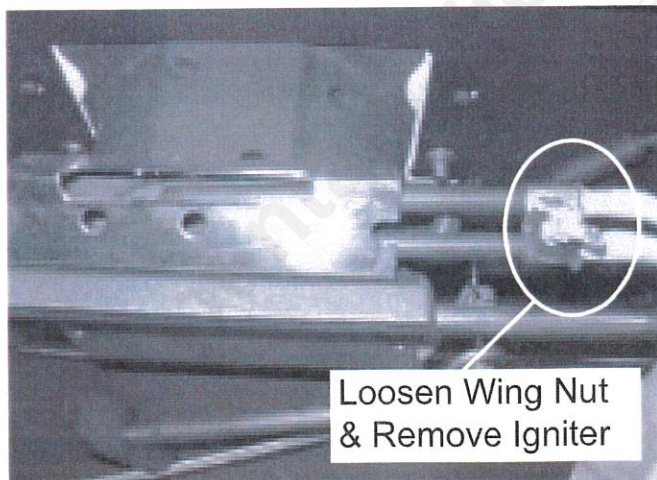

Figure 2
3. The igniter is fastened to the igniter chamber with a wing nut. Loosen the wing nut until the igniter slides free and gently remove from the igniter chamber (**Figure 2**).